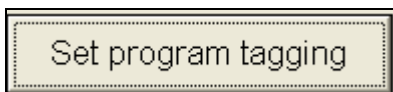

Figure 16.1.18B
13. You can enter a name for each program by clicking on the **Set program tagging** button (Figure 16.1.18B).